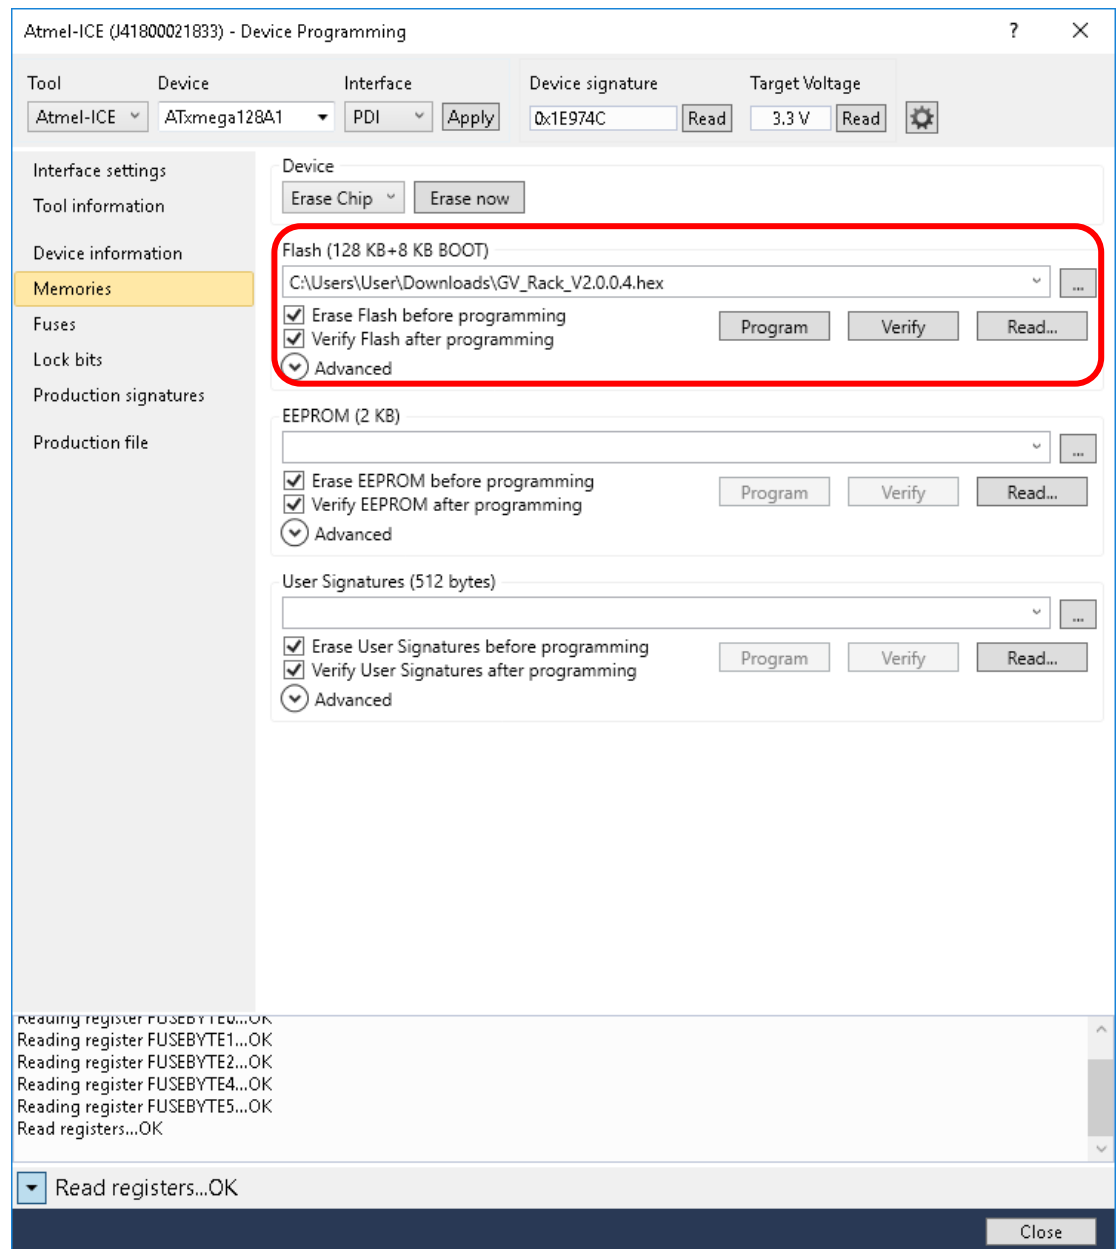

Figure 4: Atmel Device Programming Menu (Memories tab shown)
- (k) Select the Memories tab (see Figure 4). In the Flash section, browse to the hex file downloaded in step (a). Ensure the 'Erase Flash before programming' and 'Verify Flash after programming' checkboxes are selected as shown.
- (n) Select the Memories tab (see Figure 4). In the Flash section, click **Program**. Wait for confirmation that the programming is successful. If the programming is not successful, contact Nautel Customer Service (support@nautel.com).